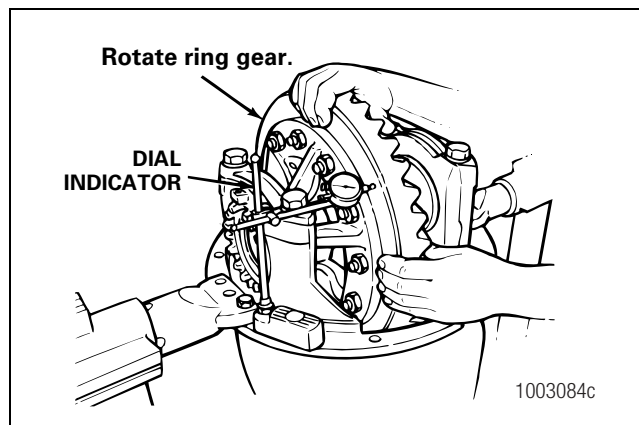

Figure 5.59
1. Attach a dial indicator onto the carrier mounting flange. Figure 5.59.
2. Adjust the dial indicator so that the plunger or pointer is against the back surface of the ring gear. Figure 5.59. Set the dial indicator to ZERO.